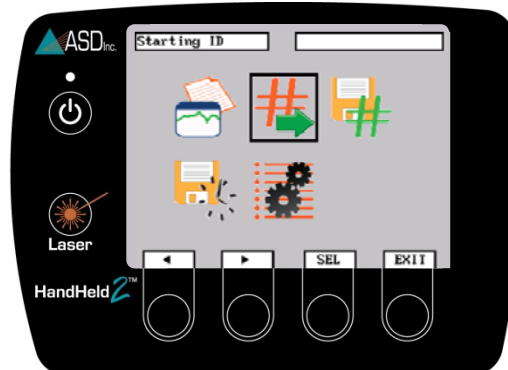

Figure 2-31: Navigate to Starting ID
- Step 2 Navigate to the Starting ID icon and press the *SEL* button (Figure 2-31).